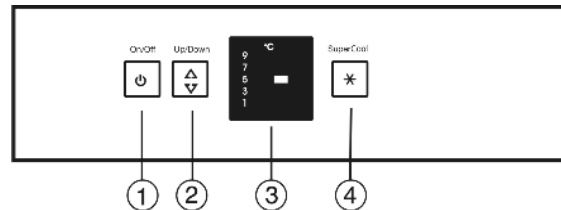

Fig. 2
- ▶ Press On/Off button *Fig. 2 (1)*.
- ▶ To access temperature adjustment: press the setting button *Fig. 2 (2)* once.
- ▶ Press the setting button *Fig. 2 (2)* the number of times needed until the required temperature shines in the LED display.